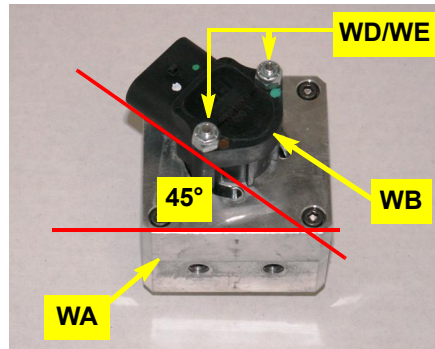

Figure 1a: WAS wire connector mounted
- a. Using hardware **WD** (screws) and **WE** (nuts), attach the WAS wire connector (sensor) **WB** to the WAS housing **WA**. Install the bolts up through the bottom of the housing. Mount **WB** at 45° to any of **WA**'s sides (Figure 1a).